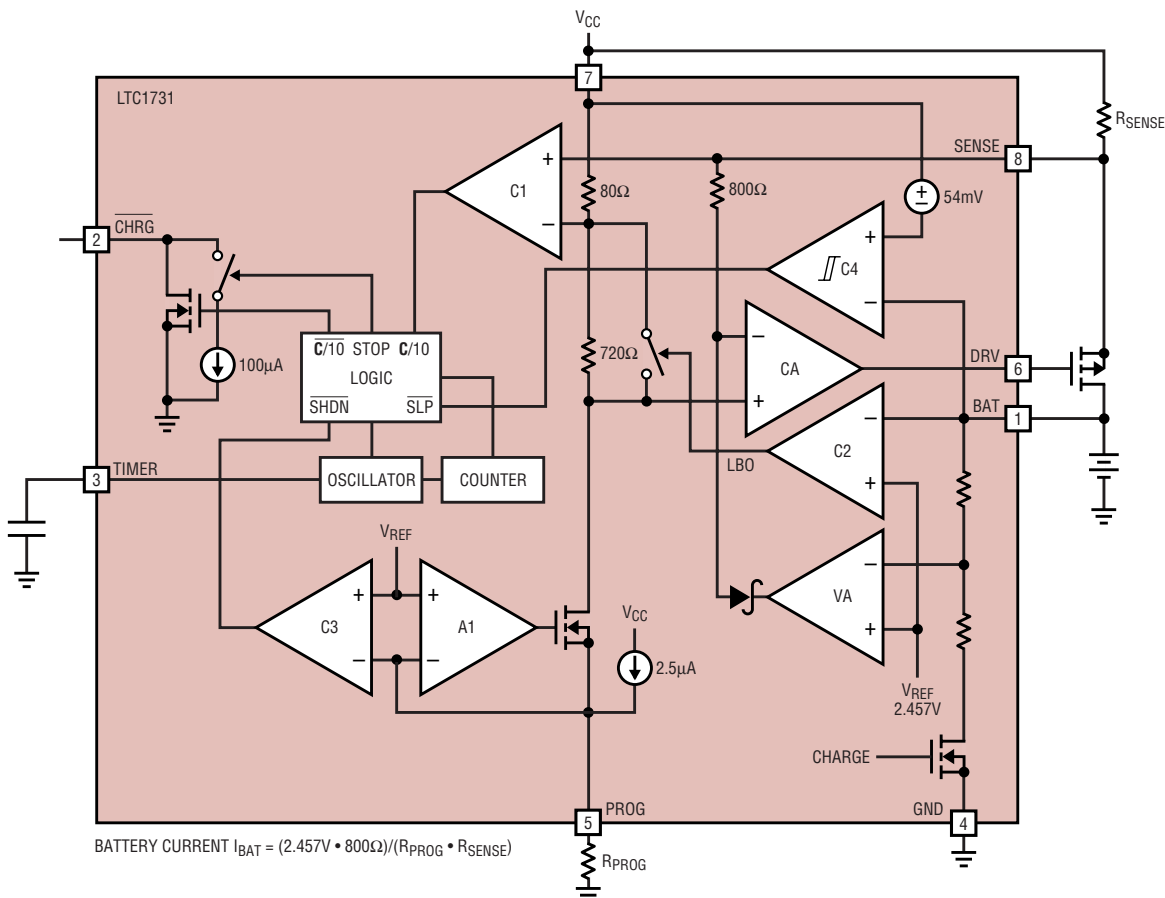

Figure 1. LTC1731 block diagram
Figure 1 is a block diagram of the LTC1731. The charge current is programmed by the combination of a program resistor, R_{PROG} , and a sense resistor, R_{SENSE} . R_{PROG} sets the programming current through an internal, trimmed 800 Ω resistor, setting up a voltage drop from V_{CC} to the input of the current amplifier (CA). The current amplifier controls the gate of an external P-channel MOSFET to force an equal voltage drop across R_{SENSE} , which, in turn, sets the charge current. When the potential at the BAT pin approaches the preset float voltage, the voltage amplifier (VA) starts sinking current, which decreases the required voltage drop across R_{SENSE} , reducing the charge current.